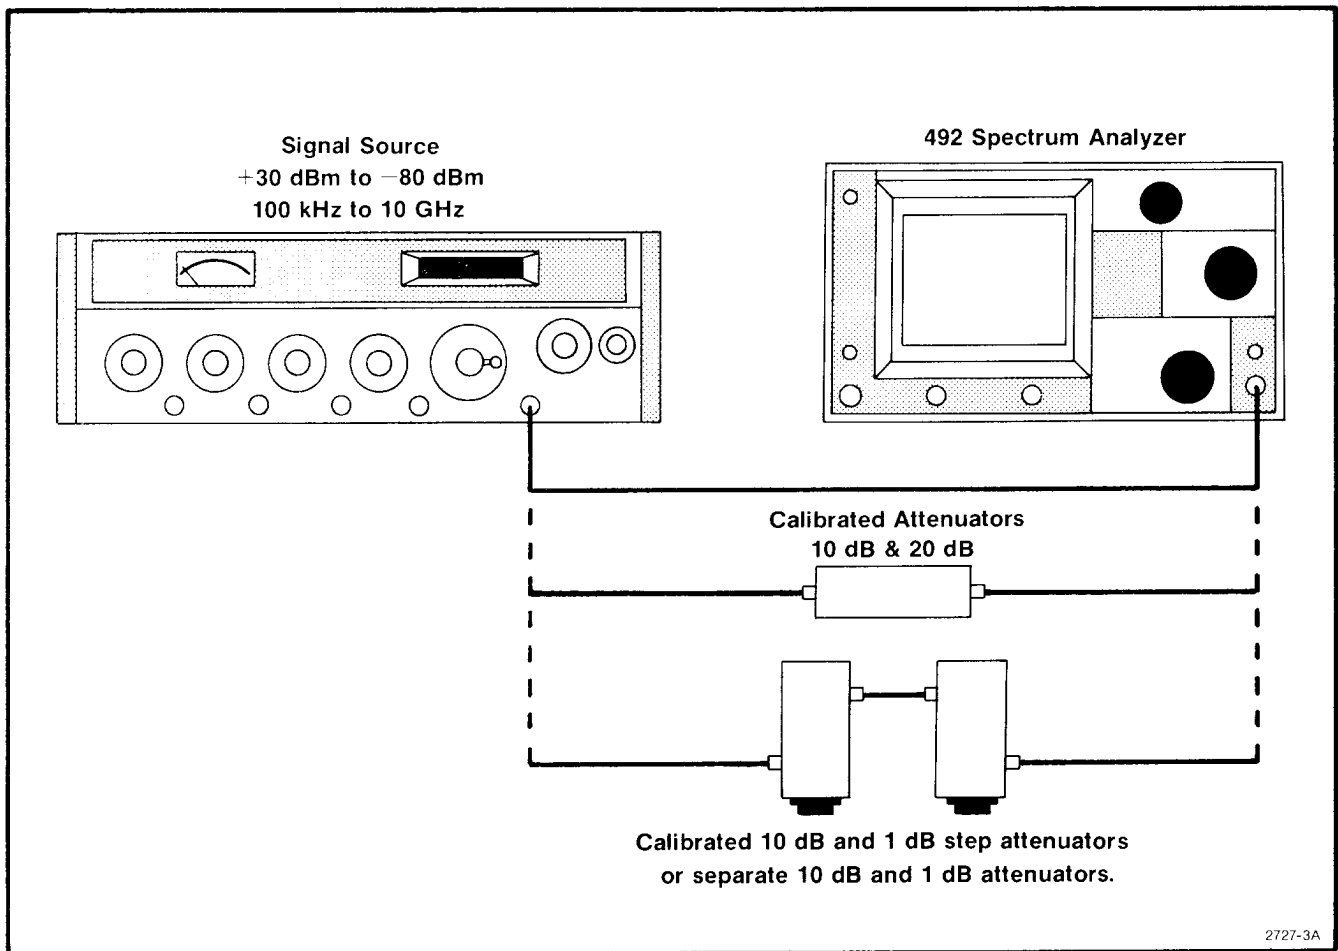

Fig. 3-3. Test equipment setup for verifying attenuator and gain accuracy.
- a. Test equipment is shown in Fig. 3-3. Apply a 0 dBm, 4 GHz signal, from a signal generator through 30 dB of calibrated attenuation to the RF INPUT of the 492/492P. Set the front panel controls as follows:
a. Test equipment setup is shown in Fig. 3-3. Apply a -20 dBm, 100 MHz signal, from the signal generator through 10 dB and 1 dB step attenuators (set at 0 dB), to the RF INPUT; or directly to the RF INPUT of the 492/492P if individual fixed attenuators are to be used as the standard. Set the front-panel controls as follows:
a. Test equipment setup is shown in Fig. 3-3. Apply +10 dBm signal through external attenuators set to 0 dB to the RF INPUT. Set the front-panel controls as follows: